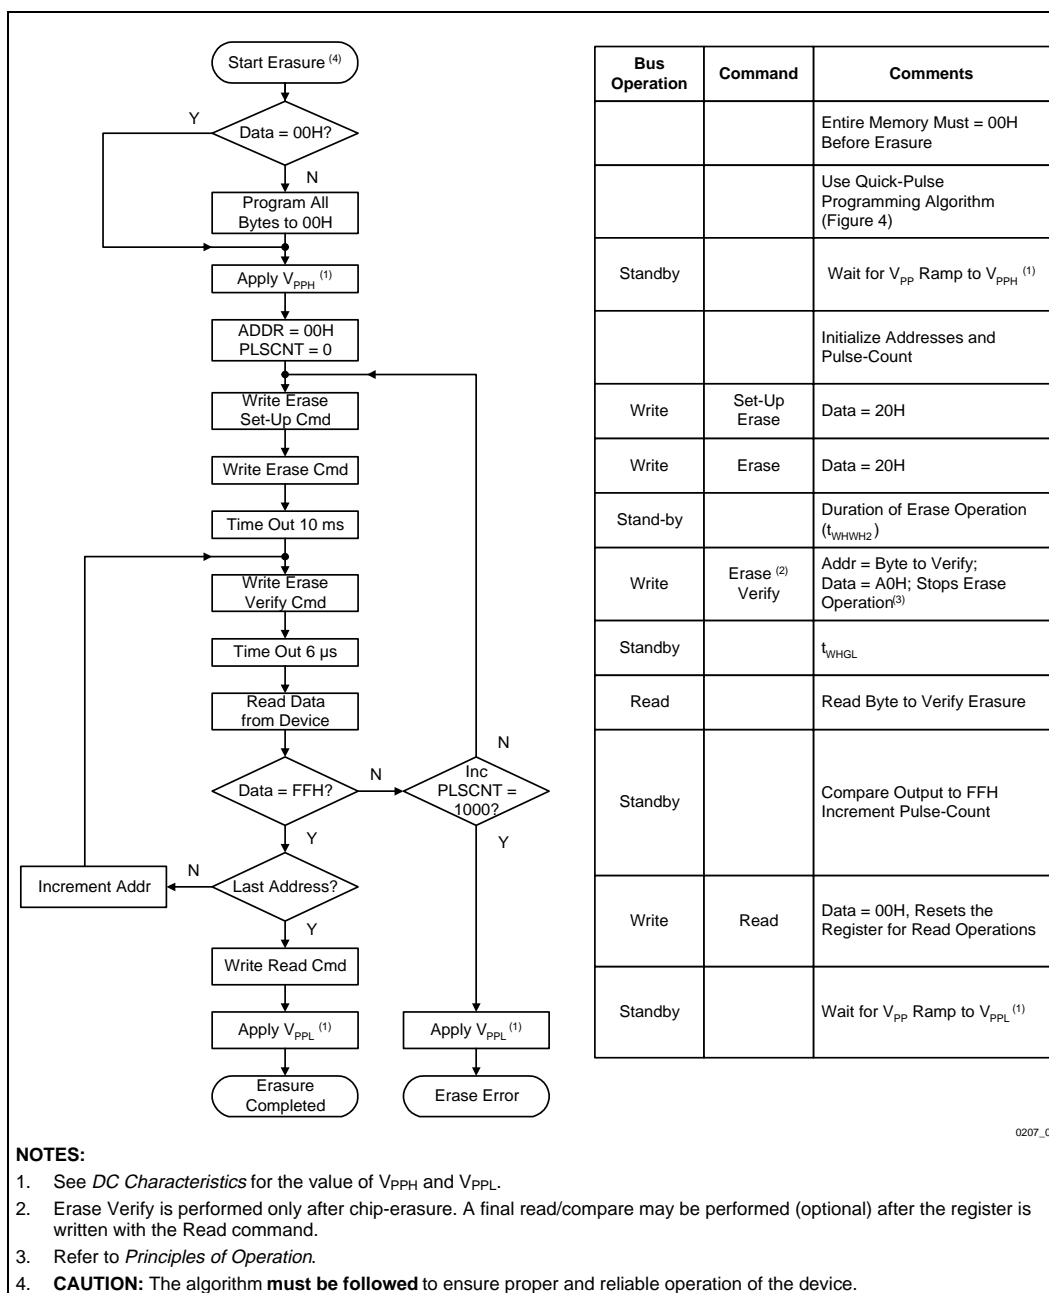

Figure 5. 28F010 Quick-Erase Algorithm
- Figure 5 illustrates the *28F010 Quick-Erase Algorithm* flowchart.
point, the verify operation is terminated by writing a valid command (e.g., Program Set-Up) to the command register. Figure 5, the *28F010 Quick-Erase Algorithm* flowchart, illustrates how commands and bus operations are combined to perform electrical erasure of the 28F010. Refer to *AC Characteristics—Write/Erase/Program Only Operations* and waveforms for specific timing parameters.
The 28F010 applies an internally-generated margin voltage to the byte. A microprocessor read cycle outputs the data. A successful comparison between the programmed byte and true data means that the byte is successfully programmed. Programming then proceeds to the next desired byte location. Figure 5, the *28F010 Quick-Pulse Programming Algorithm* flowchart, illustrates how commands are combined with bus operations to perform byte
Erase execution then continues with an initial erase operation. Erase verification (data = FFH) begins at address 0000H and continues through the array to the last address, or until data other than FFH is encountered. With each erase operation, an increasing number of bytes verify to the erased state. Erase efficiency may be improved by storing the address of the last byte verified in a register. Following the next erase operation, verification starts at that stored address location. Erasure typically occurs in one second. Figure 5 illustrates the *28F010 Quick-Erase Algorithm* flowchart.